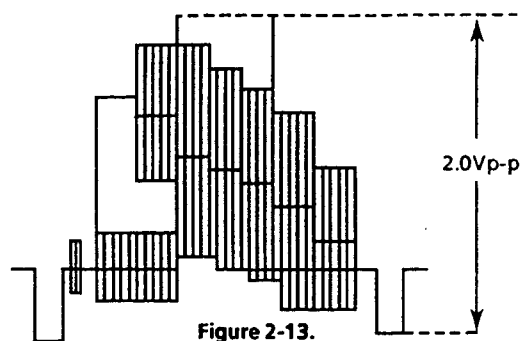

Figure 2-13.
2. Hook up the oscilloscope to video output terminal. Adjust R209 (playback level control) so that the on-screen waveform be $2.0 \pm 0.1\text{Vp-p}$ as shown in Figure2-13.